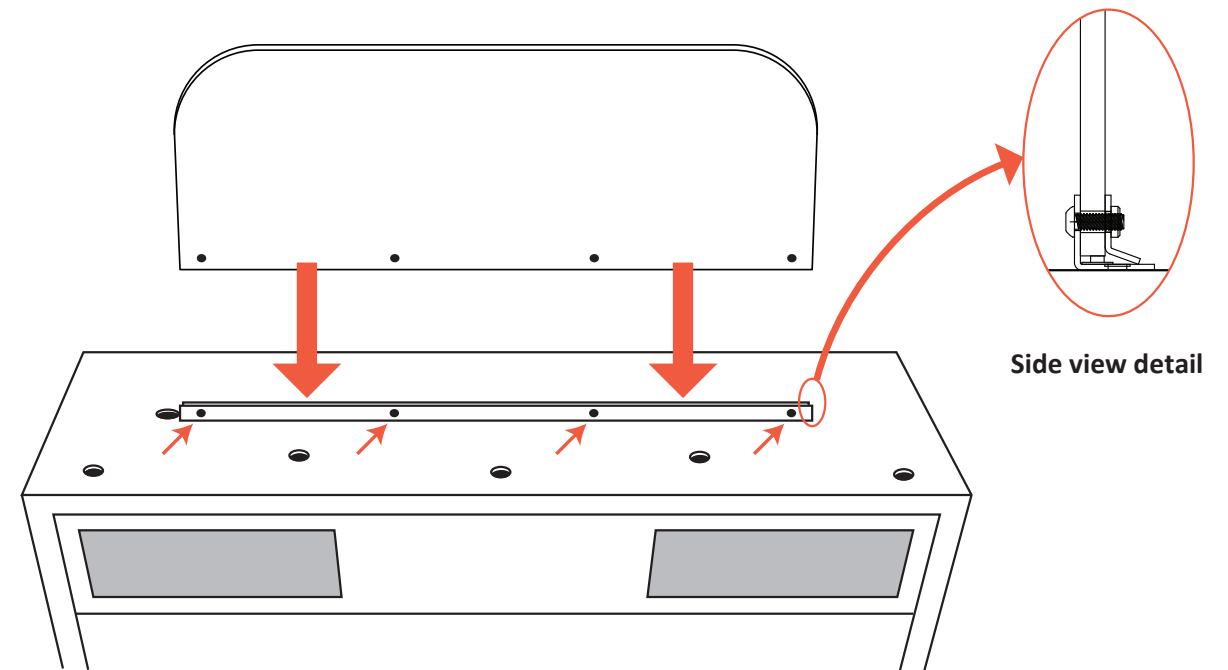

Figure A9. Installing the backbox topper plastic.
9) Locate the lasered topper plastic in the loose parts. Peel the protective covering off of the plastic’s surfaces. Using a #2 Phillips screwdriver, remove the four screws and back half of the topper bracket (the long, “L”-shaped piece), mounted to top of the backbox (see figure A9). Place the topper plastic between the two halves of the bracket, align all of the holes, and fasten all three pieces together with the four screws (as shown in figure A9, inset). When finished, the laser- etched side of the plastic should face the rear of the backbox; the smooth side should face forward.